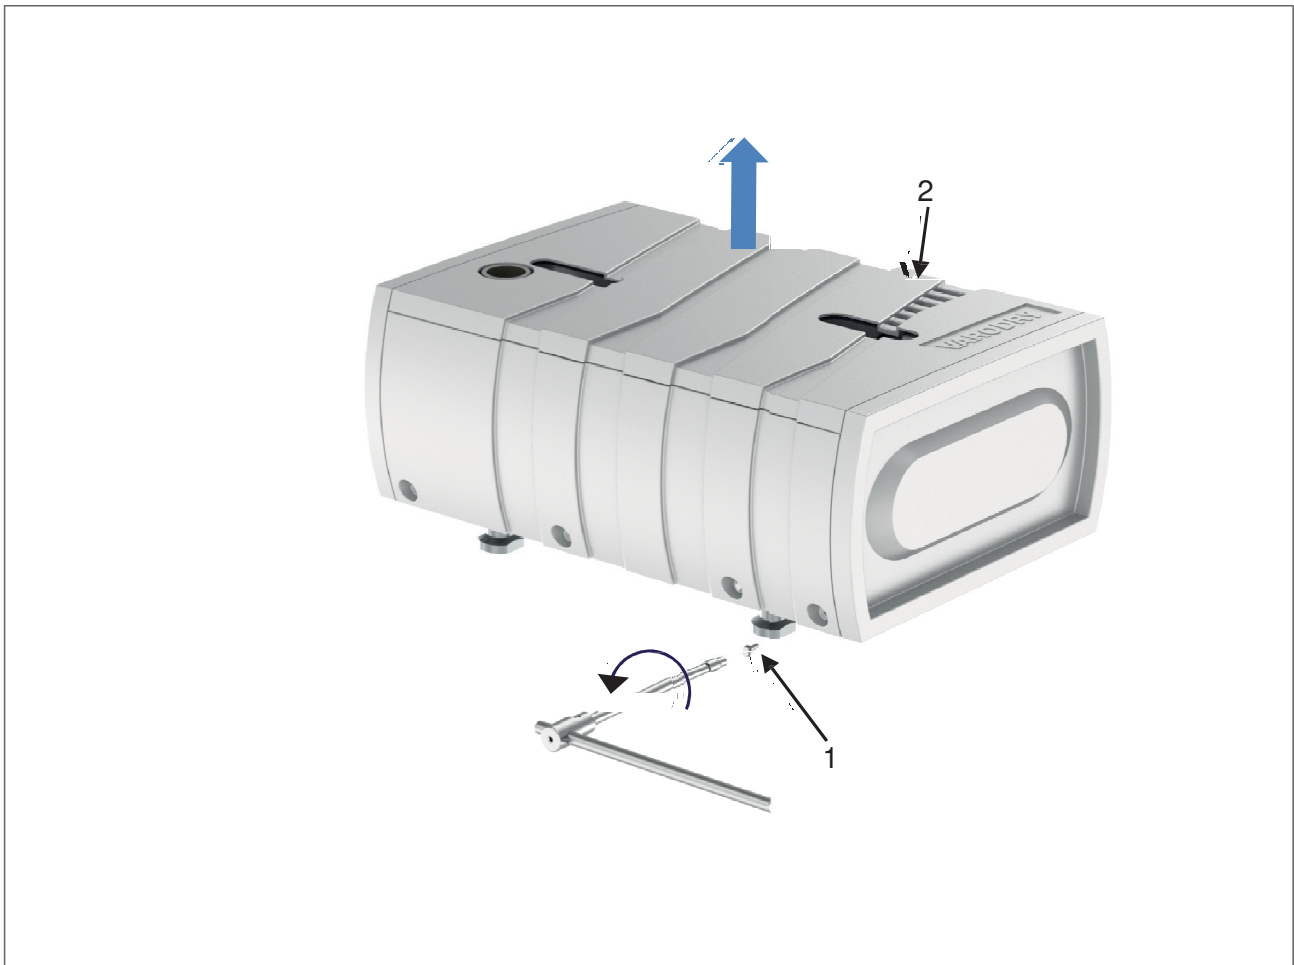

Figure 1 – Pump enclosure removal
2. Using 10mm spanner to loosen the 8 screws (Figure 1, item 1) which secure pump enclosure and carefully lift the pump enclosure (Figure 1, item 2) by hand.